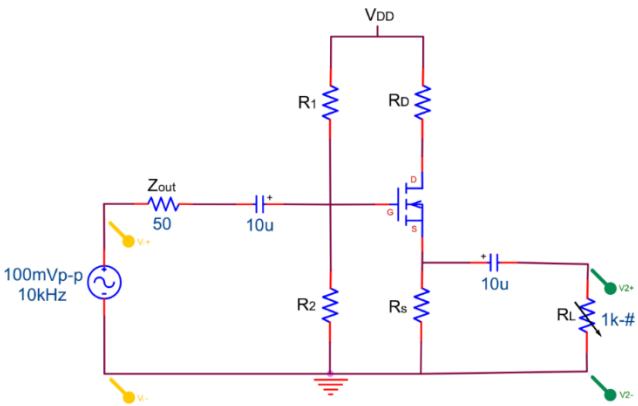

Figure 12.7
- Remove the series resistance and reconnect the signal generator directly to the amplifier input. Remove the 5K Ω resistor from the amplifier output. Measure and record the amplifier output voltage. This is v_1 . Place decreasing resistor values, starting at 1K Ω across the amplifier output (see Figure 12.7) until the output voltage drops to approximately one half v_1 . Compare the measured output impedance to the one used in the pre-lab. This output voltage is v_2 . Use the following equation to calculate the output impedance of the amplifier: